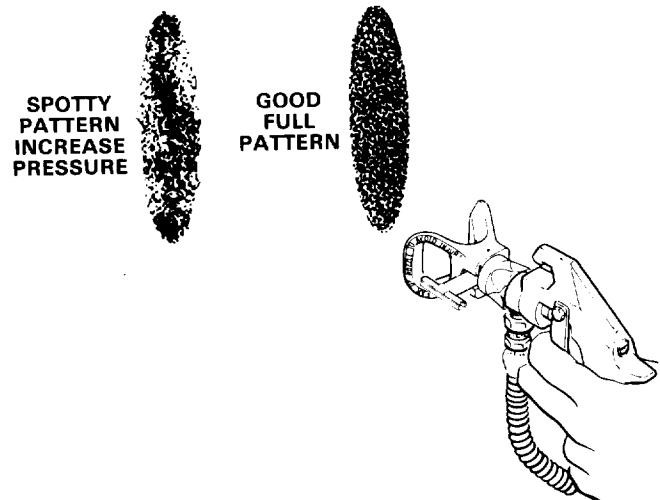

Fig 5
3. Adjusting the Spray Pattern (Refer to Fig 5)